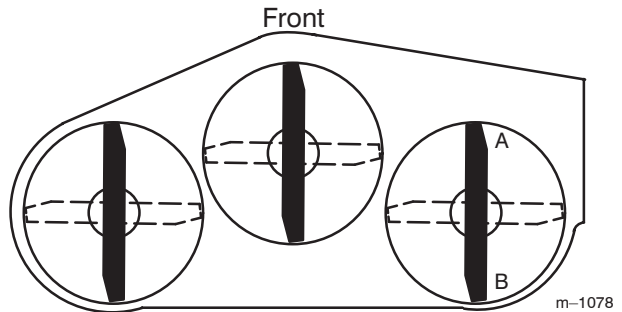
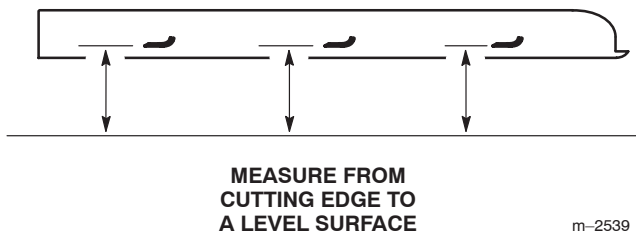

Figure 54
Figure 55
1. Position the **right** blade front to rear (Fig. 54).
2. Measure the right blade at the **A** location (Fig. 54) from a level surface to the cutting edge of the blade tip (Fig. 55).
4. Measure the right blade at the **B** location (Fig. 54) from a level surface to the cutting edge of the blade tip (Fig. 55).
6. The mower blade should be **1/4 to 3/8 inch (6 to 10 mm) lower at position A than at position B** (Fig. 54). If it is not correct, go to the following steps.